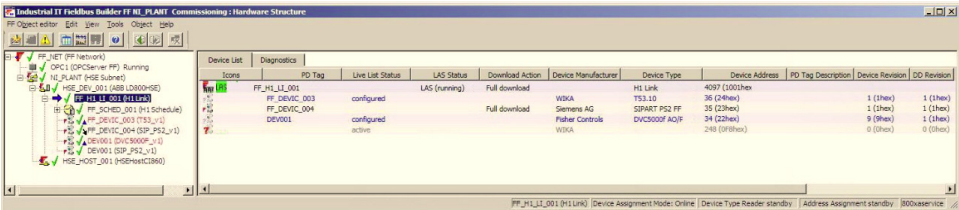

Figure 177. Device Assignment in the Feature Pack
9. Select H1 Link. The device list displays configured and active devices. Refer to Figure 177.